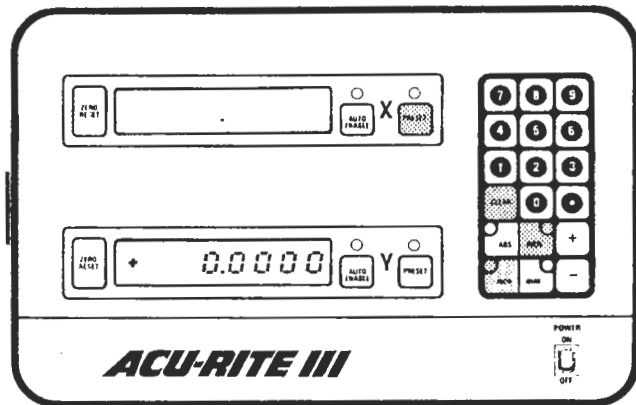

Figure 3-9. Console Status: Clearing Preset and Display
- d. Push the CLEAR key to clear any previous number from the preset memory. The display will blank out except for the decimal point (see Figure 3-9).